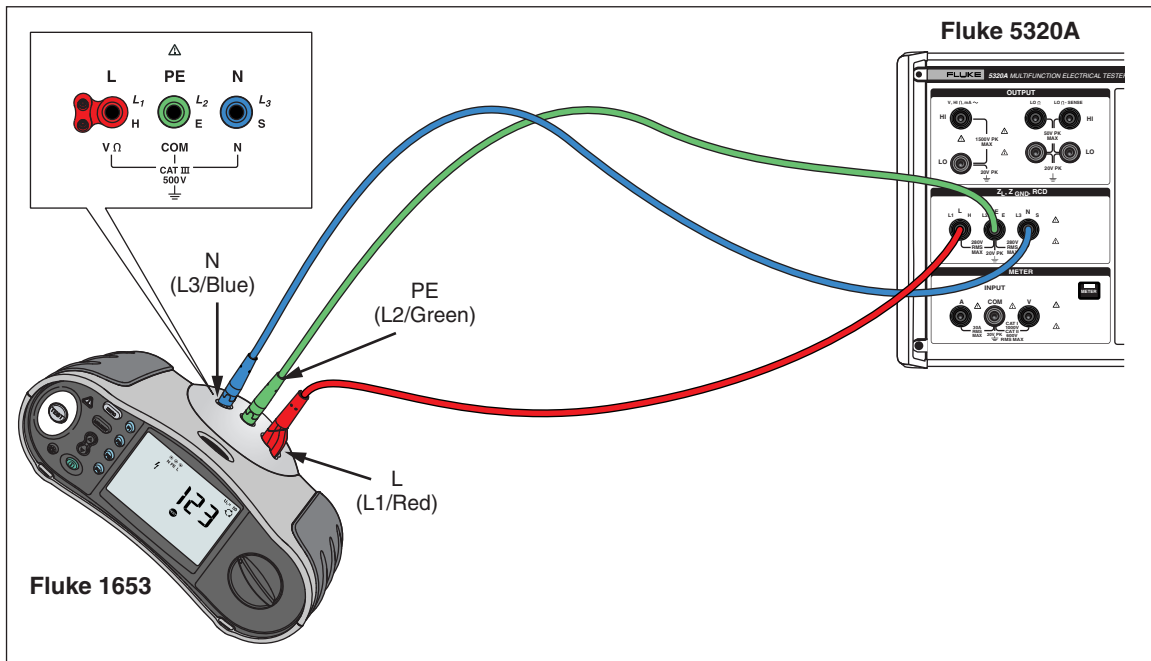

Figure 7-12. Line and Loop Impedance Calibration on a Fluke 1653
- Using Figure 7-12, connect the UUT to the L, PE and N terminals of the Calibrator. For some line impedance testers, PE does not need to be connected.
2. Using Figure 7-12, connect the UUT to the L, PE, and N terminals of the Calibrator.